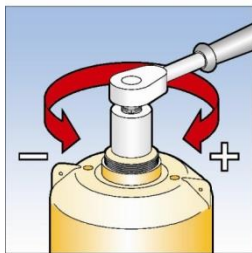

Fig. 6
18. For 100mm and 150mm H.P. unit connect suitable spanner (27mm A/F) to hexagon of spring adjusting nut. See Fig. 6.